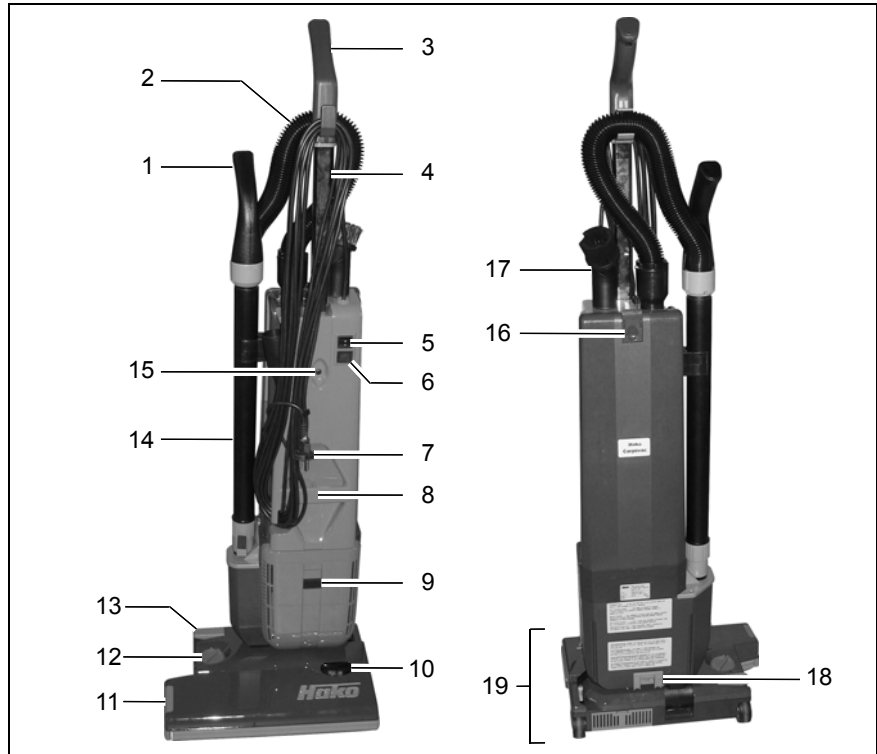

Fig. 6
1. Switch the Cleanserv VU4 on using the On/Off switch (Fig. 6/5) and move the locking device (Fig. 4/1) to its working position.
Handle (Fig. 6/3)
(Fig. 6/14 and 6/2)
On/Off switch (Fig. 6/5)
Change filter indicator (Fig. 6/6)
for shaft (Fig. 6/15)
with cable (Fig. 6/7)
Carrying handle (Fig. 6/8)
Locking device (Fig. 6/13)
(Fig. 6/12)
for brush pressure (Fig. 6/10)
Nozzle (Fig. 6/1)
- Check the paper filter bag, remove and change when the filter change indicator (Fig. 6/6) lights up.